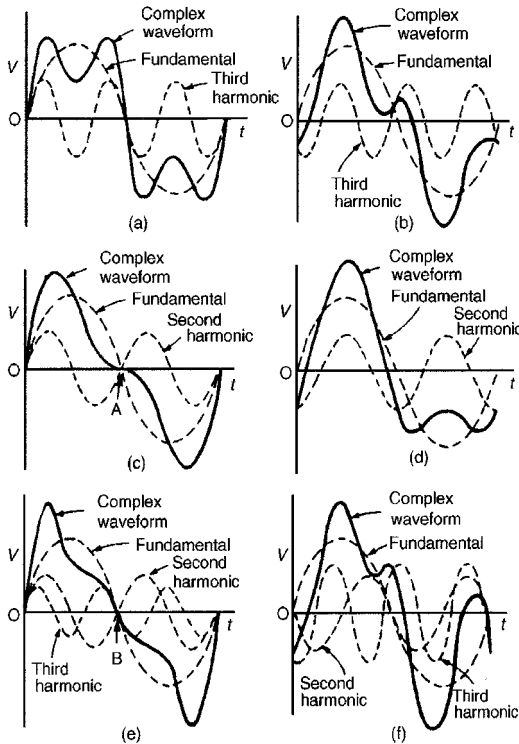

Figure 10.22
- (ii) A complex waveform comprising the sum of the fundamental and a third harmonic of about half the amplitude of the fundamental is shown in Fig. 10.22(a), both waveforms being initially in phase with each other. If further odd harmonic waveforms of the appropriate amplitudes are added, a good approximation to a square wave results. In Fig. 10.22(b), the third harmonic is shown having an initial phase displacement from the fundamental. The positive
and negative half cycles of each of the complex waveforms shown in Figures 10.22(a) and (b) are identical in shape, and this is a feature of waveforms containing the fundamental and only odd harmonics.
- (iii) A complex waveform comprising the sum of the fundamental and a second harmonic of about half the amplitude of the fundamental is shown in Fig. 10.22(c), each waveform being initially in phase with each other. If further even harmonics of appropriate amplitudes are added a good approximation to a triangular wave results. In Fig. 10.22(c), the negative cycle, if reversed, appears as a mirror image of the positive cycle about point A. In Fig. 10.22(d) the second harmonic is shown with an initial phase displacement from the fundamental and the positive and negative half cycles are dissimilar.
- (iv) A complex waveform comprising the sum of the fundamental, a second harmonic and a third harmonic is shown in Fig. 10.22(e), each waveform being initially 'in-phase'. The negative half cycle, if reversed, appears as
a mirror image of the positive cycle about point B. In Fig. 10.22(f), a complex waveform comprising the sum of the fundamental, a second harmonic and a third harmonic are shown with initial phase displacement. The positive and negative half cycles are seen to be dissimilar.
The features mentioned relative to Figures 10.22 (a) to (f) make it possible to recognize the harmonics present in a complex waveform displayed on a CRO.